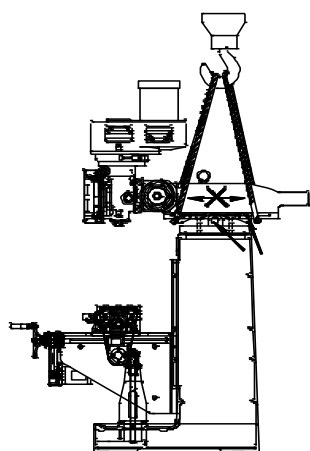

Fig. 4-3
- (1) The safety weight of the hoist must be heavier than machine weight.
- (2) Insert steel bar through the machine and joint the reinforced cable with base hoisting hook to hang it up (Fig.4-3).
- (3) Use the lowest speed of the hoist to rise up the machine.
- (4) Always remains balance during the hoisting.
- (5) Use a soft rag or paper plate to protect the machine from being harmed by the cable.
- (6) Do not hoist the machine too high. The best height is to keep the machine base approximately 10cm from the ground.
- (7) During hoisting, make sure the screw is tied enough by the ram
- (8) Operators must keep safety distance from the machines during hoisting. No one should be allowed to enter this region at least 2m from that area.